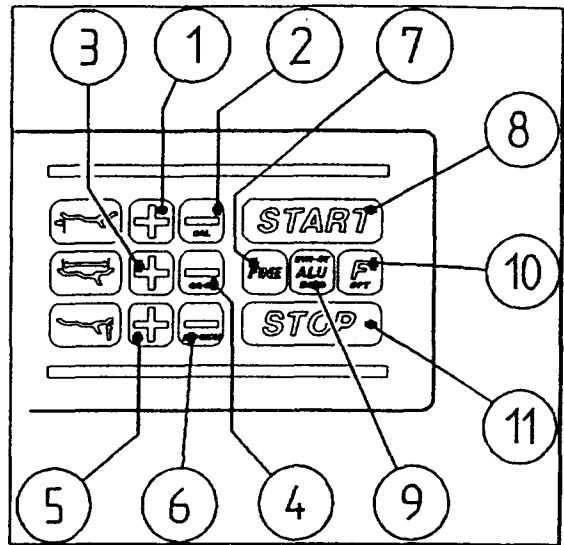

Fig.47
G. When the wheel stops the displays show two numbers. Press the buttons 1 or 2 (Fig. 47) to change the values. Adjust the numbers to be closest to **[100] [ 0 ]** (**[4.00] [ 0 ]**). Press **F** to confirm.
J. When the wheel stops the displays show two numbers. Press the buttons 1 or 2 (Fig. 47) to change the values. Adjust the numbers to be closest to **[ 0 ] [100]** (**[0] [4.00]**). Press **F** to confirm.
If the display in ounces is desired, press and hold **F** (#10 Fig. 47) then press **GR-OZ** (#4 Fig.47).
Press and hold the button **FINE** (#7 Fig.47) to display the residual imbalance or in any case the value of imbalance with the highest resolution .
The rim diameter is normally displayed in inches, however if the value in millimeters is desired, press button 5 or 6 (Fig. 47) , press and hold **F** (#10 Fig. 47) then press **MM- INCH** (#6 Fig.47).